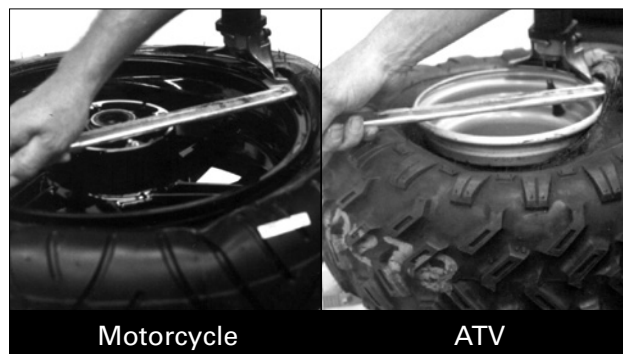

Figure 11 - Lift Bead Over Demount Head
12. Rotate the bead lifting tool down towards the wheel to lift the tire bead up and over the knob portion of the demount head. The lift tool may be removed if desired (figure 11).